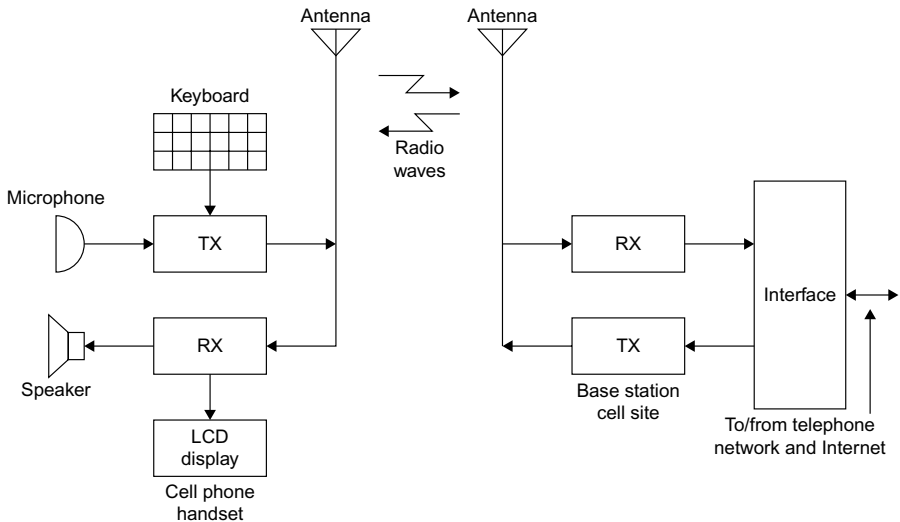

FIGURE 1.4 Model showing how a cell phone communicates with a cell site to make a call.
Take a look at Figure 1.4. On the left is a cell phone handset. It is made up of two major pieces—a transmitter (TX) and a receiver (RX). You talk into a microphone and generate a small electrical voltage or signal representing your voice. The transmitter takes that and processes it in such a way that the voice controls or modulates a high-frequency radio signal. That signal carrying your voice is then radiated by the antenna to a cell site or base station. The base station receiver picks it up and processes it back into the original voice signal where it then undergoes other processing before being sent over the telephone network to its destination. The dialing process or text messaging from the keyboard also generates input signals that are transmitted to the base station.